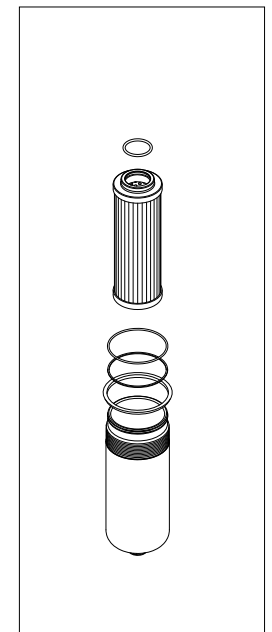

fig. 29
- (Fig. 29) Fit #1: the anti-extrusion ring and #2: the O-ring in the bowl groove, insert the O-ring in the filter element cap